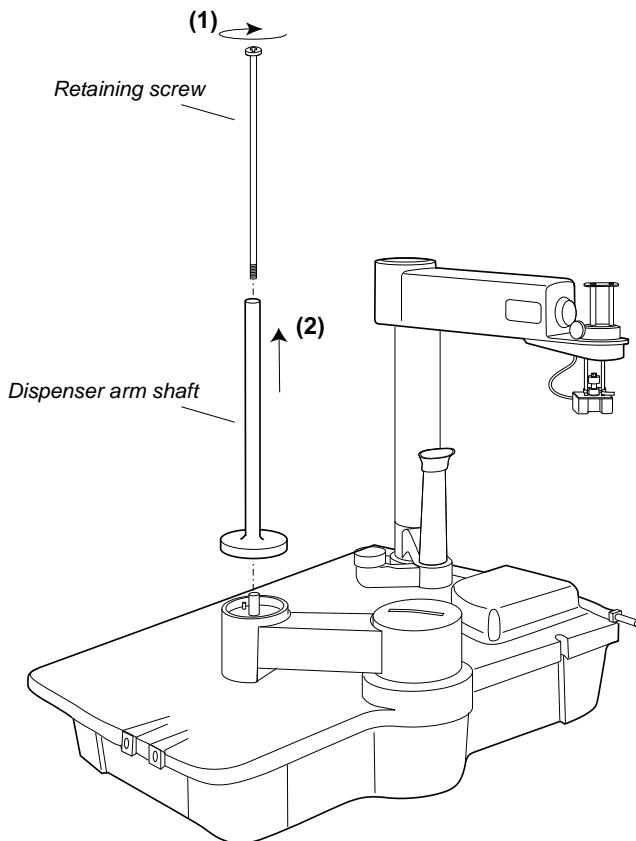

Figure 2-26. Removing the dispenser arm shaft
- 2 Loosen the finger-tight connector and pull out the capillary (1).
- 3 Loosen the knurled screw (2).
- 4 Remove the dispenser arm (3).
- 5 Push the waste arm to the right (4).
- 6 Lift up and remove the rack (5).
- 7 Remove the dispenser arm shaft as shown in Figure 2-26.